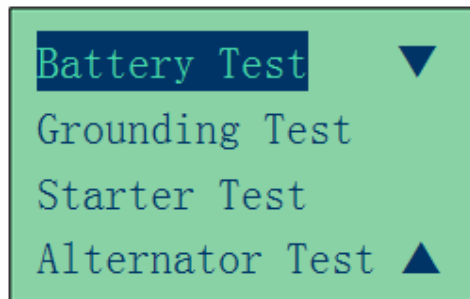

Figure 23
3. After you have made your choice, selecting "New->Clear Memory" or "Last->Continue" will proceed to the display below: (Fig. 23)